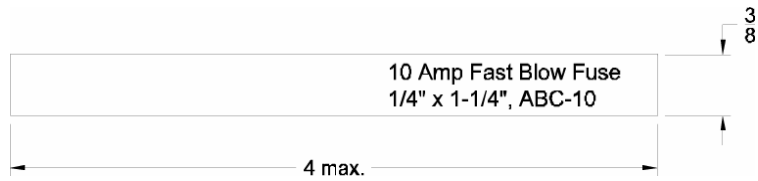

Figure 2.12—Label for identifying fast-blow fuse
- a. Connect the factory-installed wire (containing a 10-amp inline ¼ x 1 ¼-in. ABC-10 ceramic fast-blow fuse) extending from the Batt+ terminal (terminal 4) to the positive (+) terminal of the battery. A label including the model number for the fuse is attached to the wire for convenience in ordering replacement fuses (see Figure 2.12).